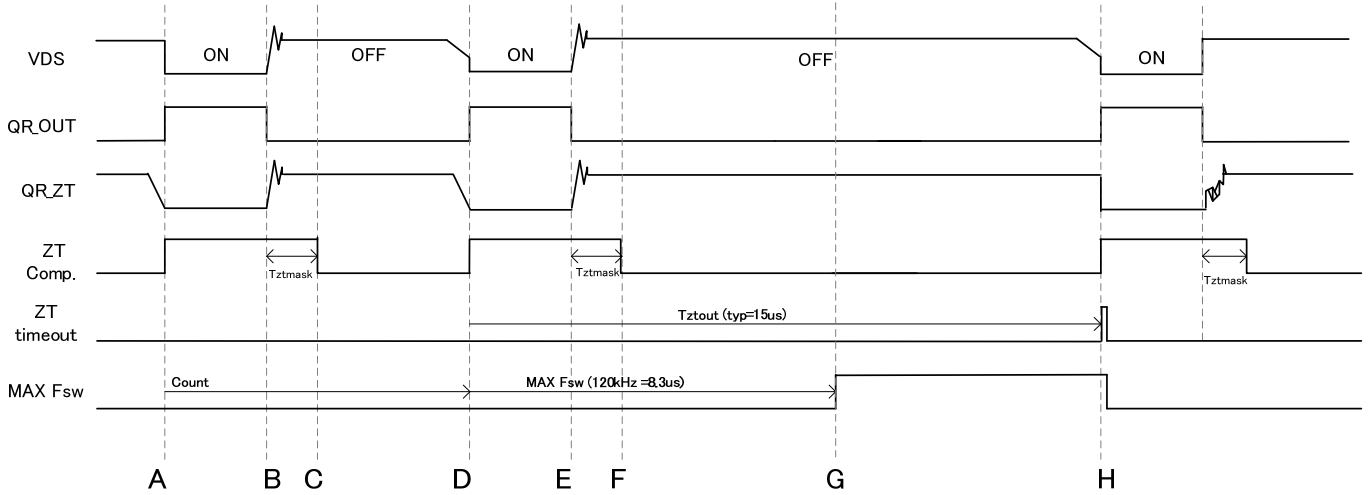

Figure 34. ZT Time out Function
**(5-6) ZT time out function (Figure 34)**